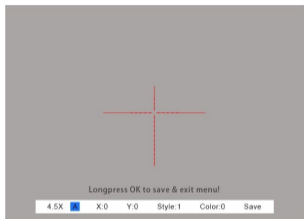

Fig. 12
- 3 **Profile setting:** Once on the zeroing page, press [Key 1] or [Key 3] create a new zeroing profile or edit an existing one (Fig. 12).